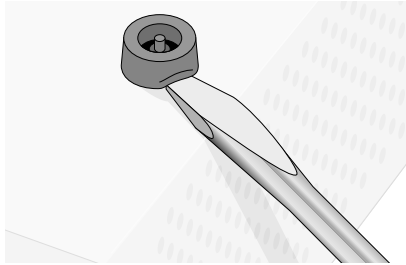

Figure 5 Removing the Feet
4. Remove the snap-on plastic feet from the bottom of the switch, as shown in Figure 5.